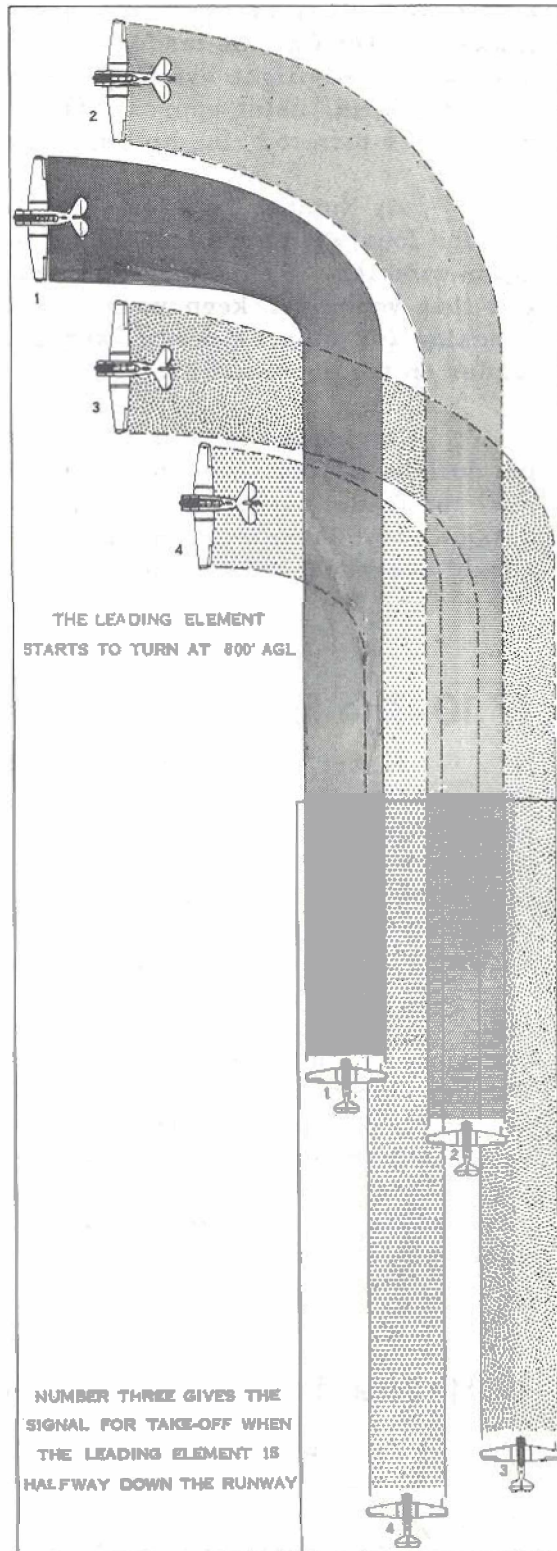
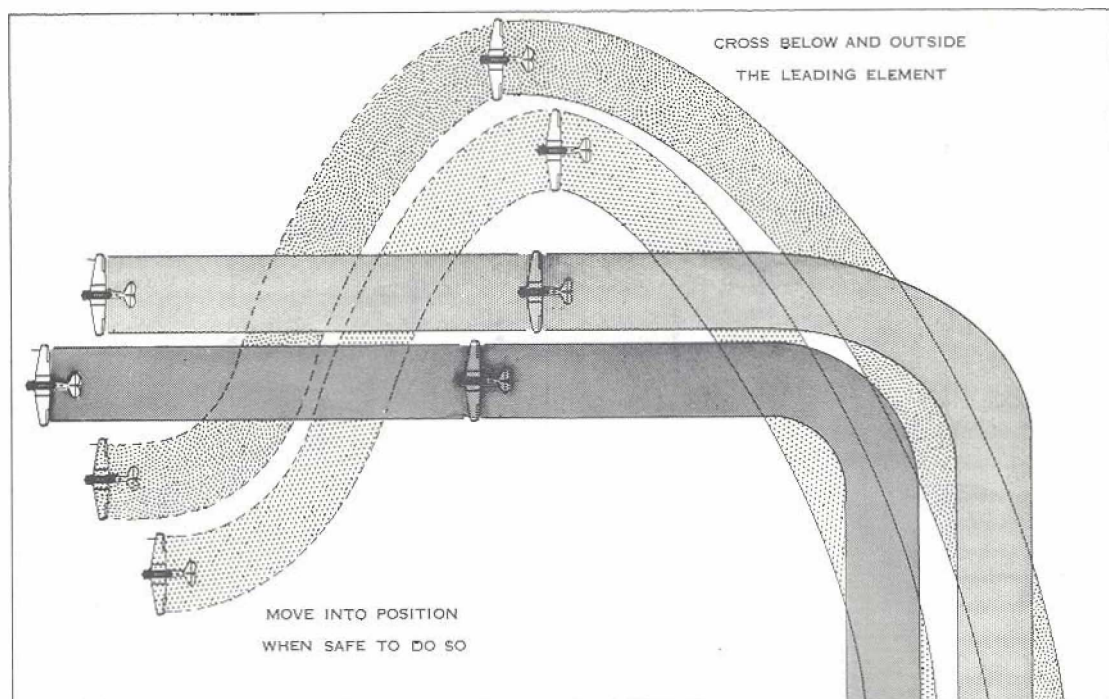

Figure 8: The Take-off and Join-up
Figure 9: Overshooting on the Join-up
enough down to allow the other three aircraft to take up their positions. When he is certain that everyone is in place and ready to go, the leader signals for 20" MP, the signal, if it is by hand, being passed down the line by the other pilots. On another signal from Number One, the leading element moves off in a normal, two-plane take-off. (Figure 8) Number Three, as leader of the second element, waits until the first element is halfway down the runway before giving the signal for take-off to his wingman.
(2) After take-off, the leading element climbs straight ahead to 800 feet AGL, where a shallow climbing turn is made in the direction of circuit traffic. This turn is continued until the second element has joined-up, but must not exceed 180 degrees. The signal for a reduction to climbing power is given at the normal time.
(3) When the leading element is starting its turn at 800 feet AGL, the second element should be at 300 feet AGL and should fly an intercepting course to join-up in the turn as shown in Figure 8. The formation so formed is called a FINGER. If you are flying as Number Three, you must check that your element has passed through 300 feet AGL before attempting to turn to intercept the leading element. Also, you must display good judgement in closing on the leading element, and make the reduction to climbing power early enough for your wingman to stay in position. If you find that your element is going to overshoot, you must pass underneath and outside the leading element so that you always have a clear view of the other aircraft. (Figure 9) From a position on the wrong side of the leading element, it is comparatively simple to cross-under into the correct position. NEVER TRY TO SLOW DOWN BY INCREASING THE